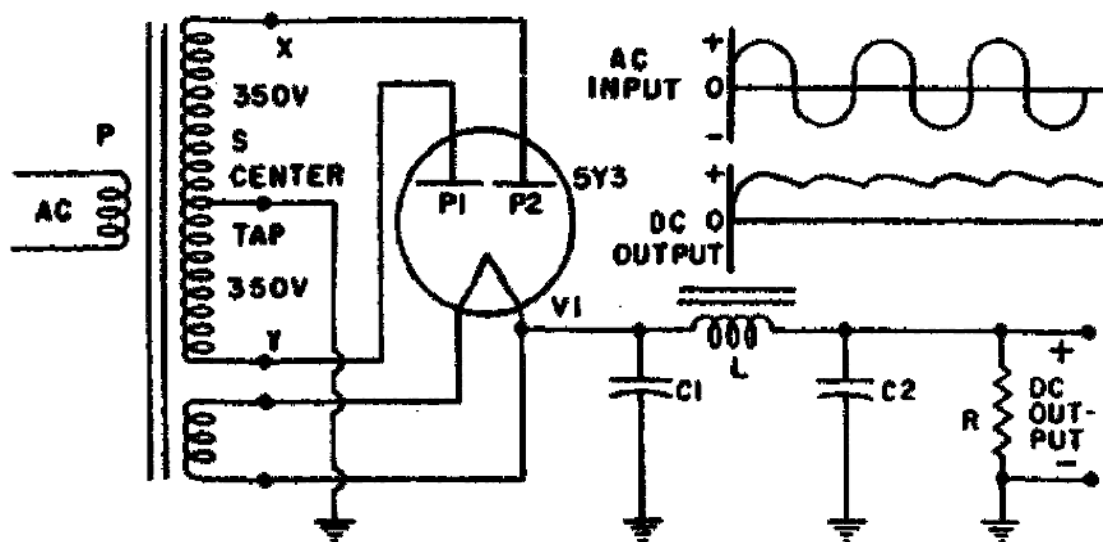

Figure 92. Full-wave rectifier.
16. In a full-wave rectifier circuit, two diodes may be used. However, in many applications, the two diodes are included in one envelope and the tube is referred to as a duo-diode. A typical example of a full-wave rectifier circuit is shown in figure 92. In this circuit a duo-diode is used, and the transformer's secondary winding has a center tap. Notice that the center tap current is turned to ground and then through R and inductor L to the cathode (filament) of V1. The voltage appearing across X and Y is 700 volts a.c. The center tap is at zero potential with 350 volts on each side.
18. During the other half-cycle, P1, will be negative and nonconducting while P2 will be positive and conducting. Therefore, since the two plates take turns in their operation, one plate is always conducting. Current flows through the load resistor in the same direction during both halves of the cycle, which is called full-wave rectification. The circuit shown in figure 92 is the basis for all a.c. operated power supplies that furnish d.c. voltages for electronic equipment. Notice that the heater voltage for the duo-diode is taken from a special secondary winding on the transformer.